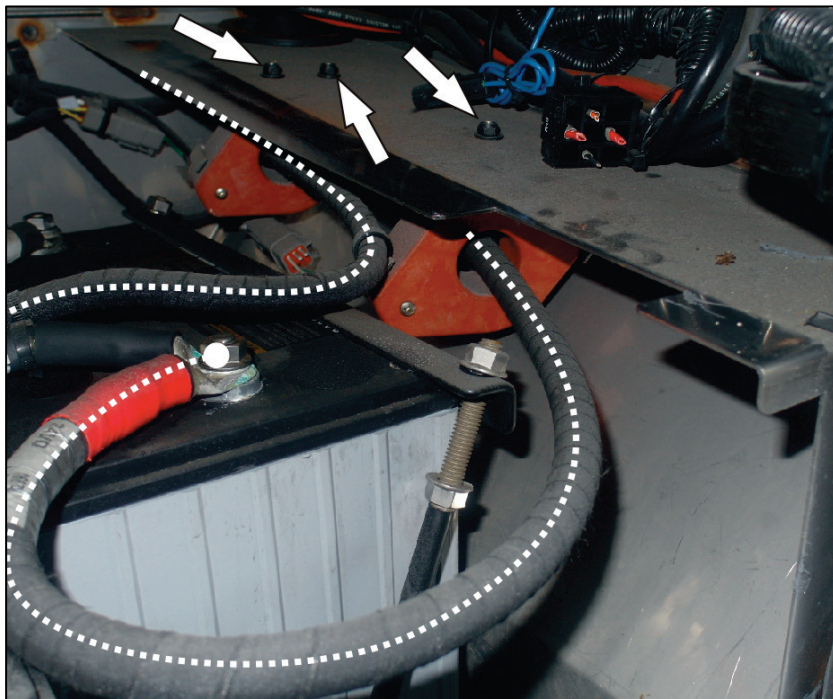

Figure 11 : H Series Power Cables
6. Remove 12V and / or 24 V power cables to allow sensor removal. (Fig. 11 & 12)